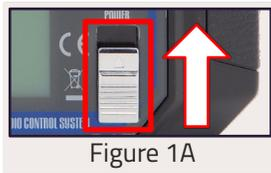

Figure 1A
3. Power on the FlySky controller using the Power switch (Fig 1A). The FlySky controllers are labeled as 1 & 2 for easy reference.